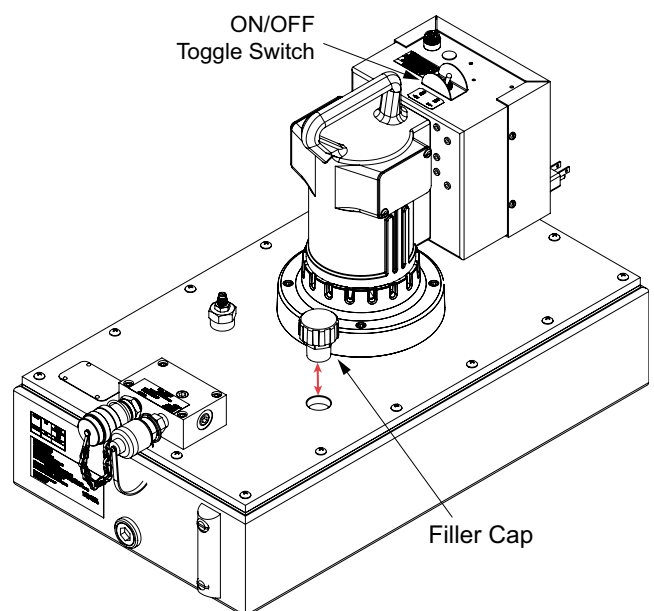

Fig. 11: PE55 Pump Unit (shown PE551MX2)
- B. Remove the filler cap and insert a clean funnel with a filter (see figure 11).
- C. Ensure that both the eSync unit and pump unit are in the OFF state, and verify that no buttons are pressed on the pendant (see figure 11).
- The pump unit can be turned ON or OFF independently using the ON/OFF push button switch (see fig. 11).